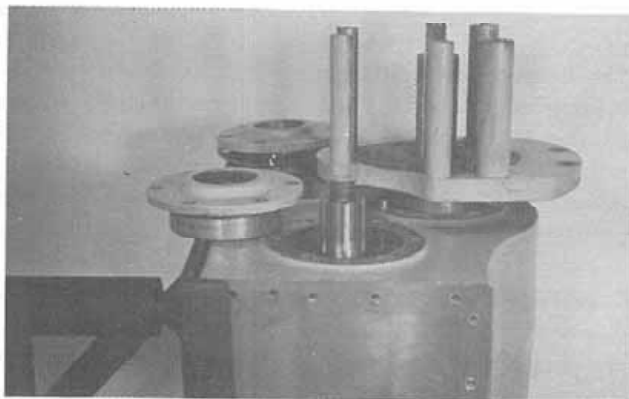

Figure 8:
7. Rotate the transfer case slowly in the stand and remove the bearing caps on the front side (Fig. 8), and the inner brake plate/bearing cap assembly.